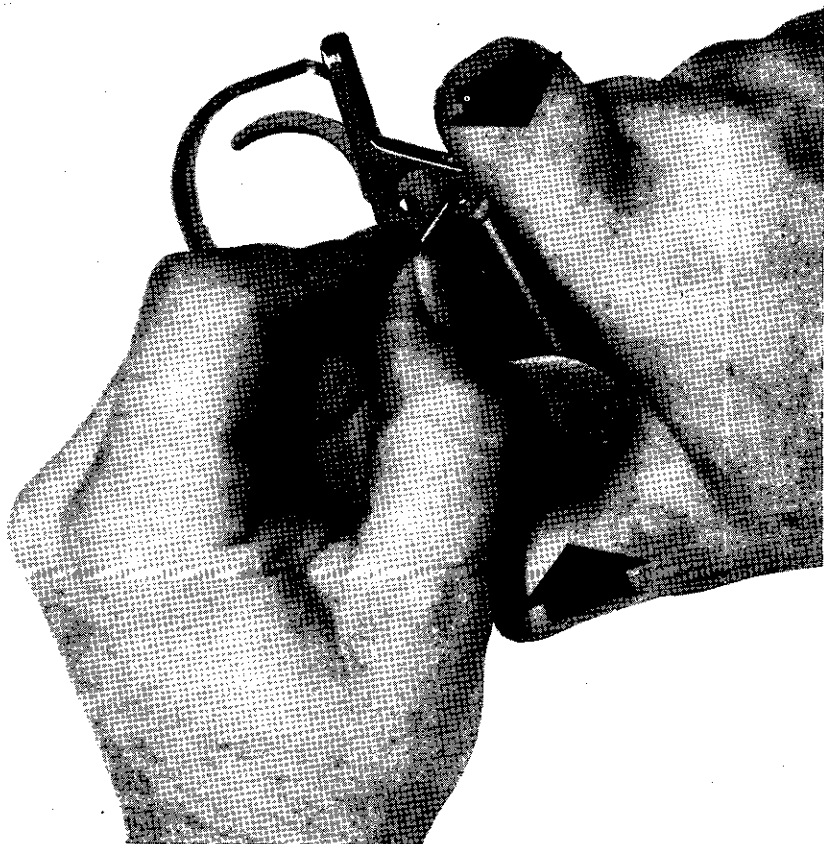

Figure 27. Replacing the trigger pin.
e. Assemble the hammer spring plunger, hammer spring, and hammer spring housing into one unit. Hold the trigger housing in your left hand with the vertical face toward you and the open face up. Place the plunger in its seat on the hammer. Make sure that the cut-away portion of the hammer spring housing is toward the safety. Hold these parts in place with your left thumb and insert the trigger into the trigger slot so that the notch at the curved rear surface of the finger piece bears against the rear of the slot in the trigger housing. Place the wings of the hammer spring housing astride the sear pin. With your right forefinger hooked over the sear and your right thumb on the vertical face, apply pressure to compress the hammer spring and aline the holes for the trigger pin. Insert the trigger pin as far as its head (fig. 27).